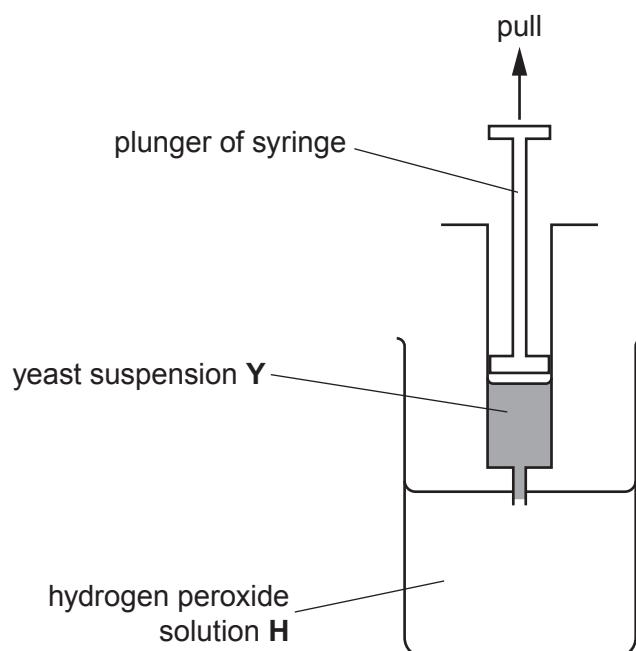

Fig. 1.1
4. Take up 1.0 cm^3 of hydrogen peroxide solution **H** into the same syringe, as shown in Fig. 1.1.
12. Take up 1.0 cm³ of hydrogen peroxide solution **H** into the same syringe, as shown in Fig. 1.1.